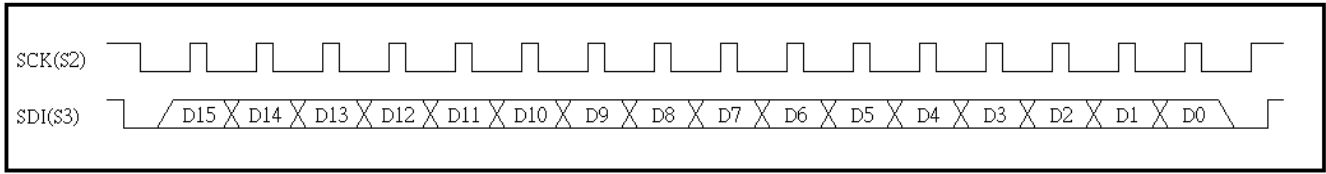
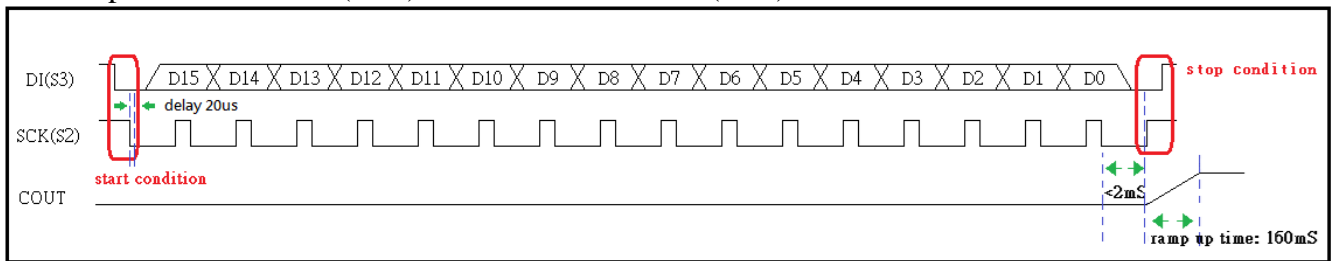
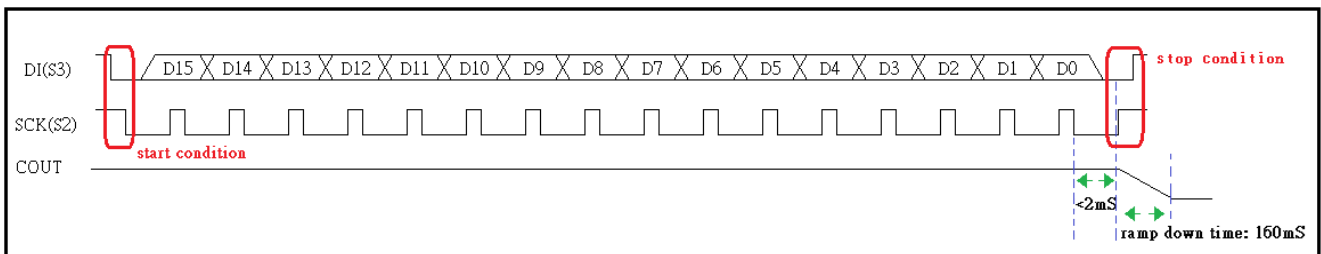

Fig.14 I2C Command timing
Fig. 15 Power-Up command timing
Fig. 16 Power-Down command timing
- (1). Load Voice Group Address :
- a. Command timing reference Fig.14 I2C Command timing.
- (2). Play Voice Group Address :
- (3). Power up with RAMP-UP(PU2) or without RAMP-UP(PU1) :
- a. Command timing reference Fig. 15 Power-Up command timing.
- (4). Power-down with RAMP-DOWN(PD2) or without RAMP-DOWN (PD1) :
- a. Command timing reference Fig. 16 Power-Down command timing.
- (5). Volume Set (VOL[3:0]) :
- (6). Volume ++ (VOL++) :
- (7). Volume -- (VOL--) :
- (8). Pause and Resume (PAUSE; RESUME) :